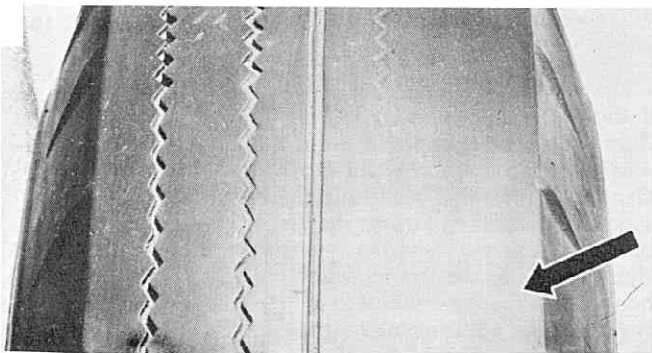

Figure 4—Bad effects of incorrect camber
2. Excessive wear to one side of tire tread. Too much positive camber causes wear on the outside edge. Figure 4 shows this type of wear.